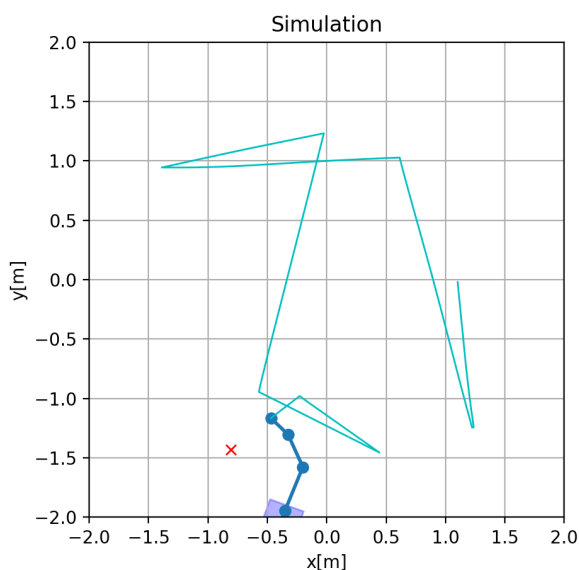

Fig 1. Simulation of the mobile manipulator, including end-effector goal.
- 3) Plot presenting the visualisation of the robot structure in motion (see Fig. 1).